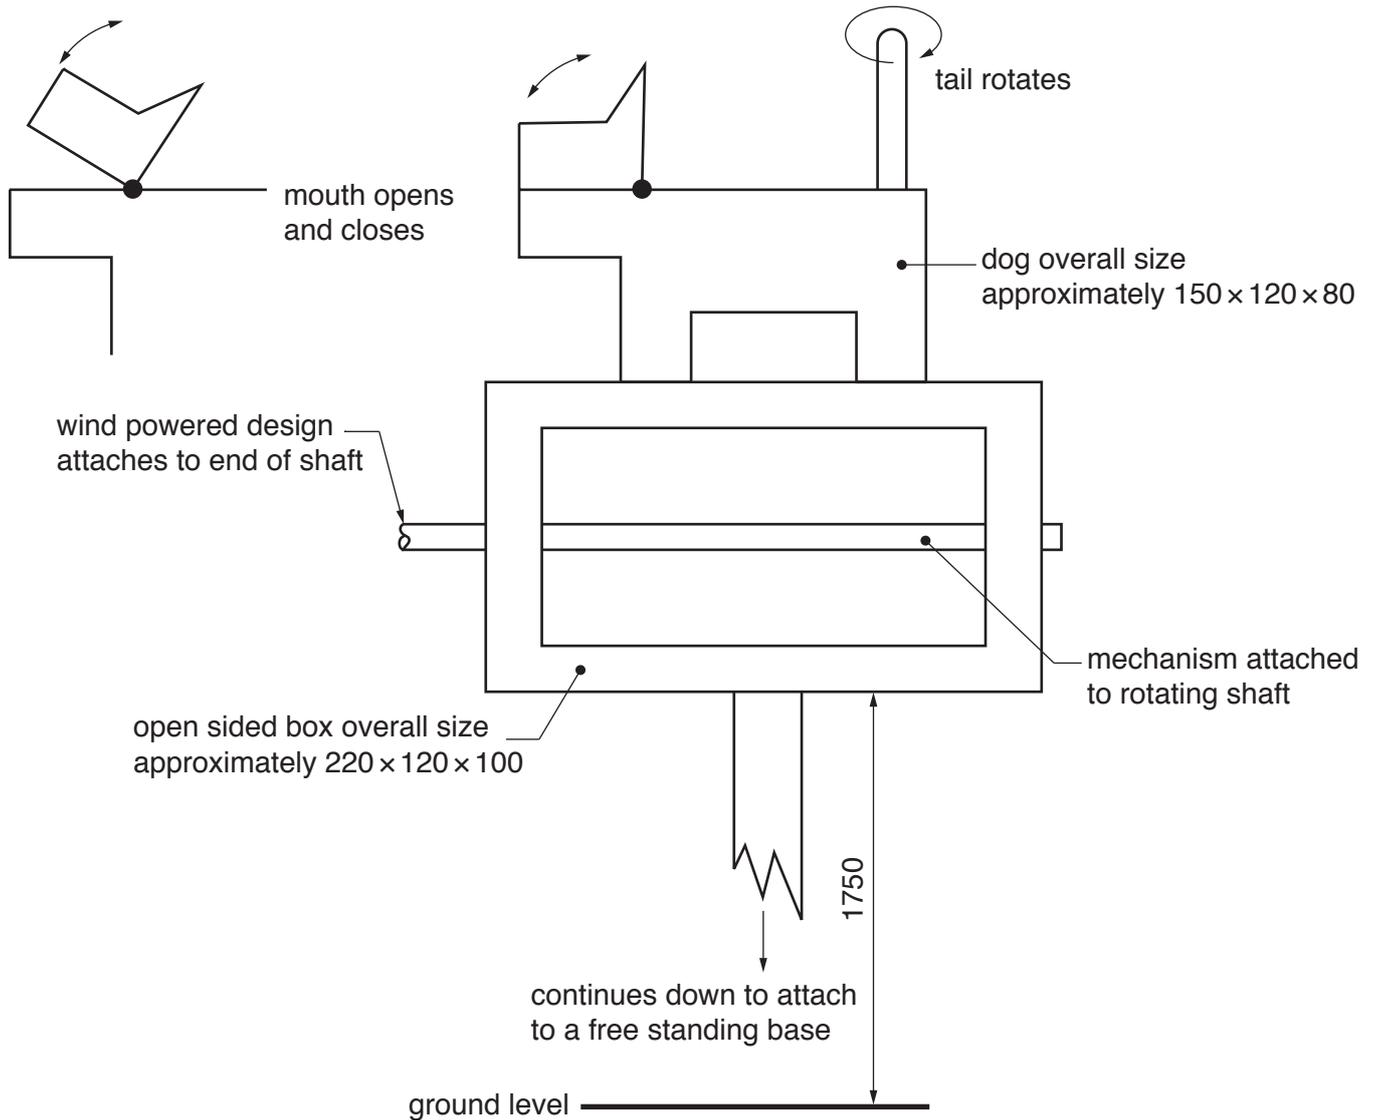

Fig. 9
9 Fig. 9 shows an incomplete idea for a wind powered mechanical toy dog.
- (b) Using notes and sketches, **develop** designs for the open sided box, the dog and the mechanism that will be attached to the shaft to make the parts of the dog move as shown in Fig. 9. [20]